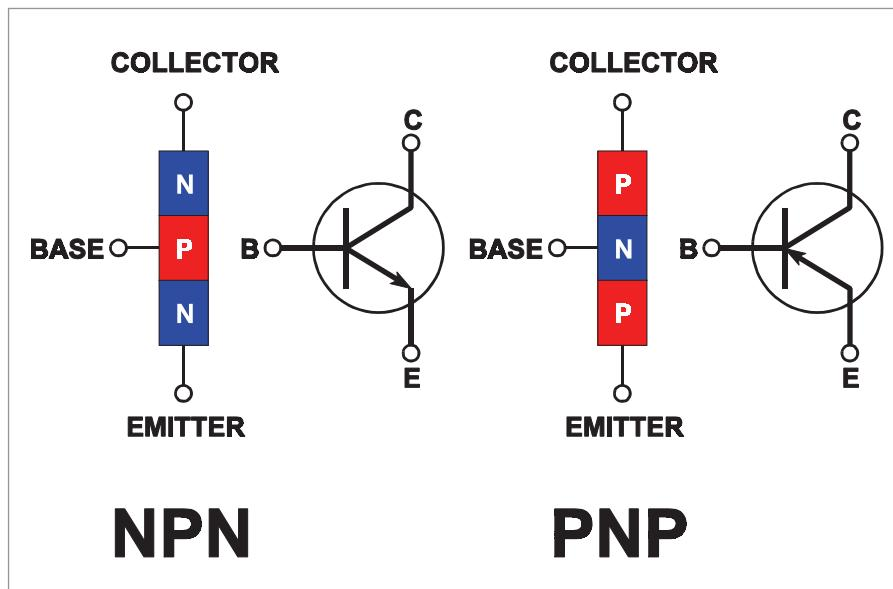

Figure 16.8 The bipolar transistor
**Construction:** This is a combination of two junction diodes and consists of either a thin layer (typically 25 µm) of P-type semiconductor sandwiched between two N-type semiconductors (as shown in Figure 16.8 left) which is referred to as an N-P-N transistor, or a thin layer of N-type semiconductor sandwiched between two P-type semiconductors (as shown in Figure 16.8 right), which is referred to as a P-N-P transistor.